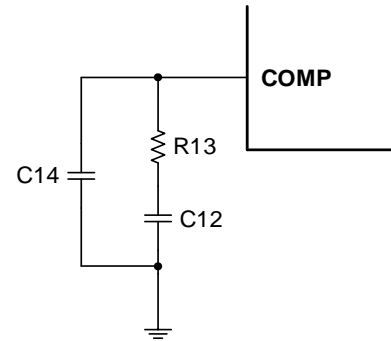

Figure 12: COMP External Compensation
The COMP external compensation sets one pole and one zero (see Figure 12). The pole's frequency (f_{P1}) can be calculated with Equation (26):